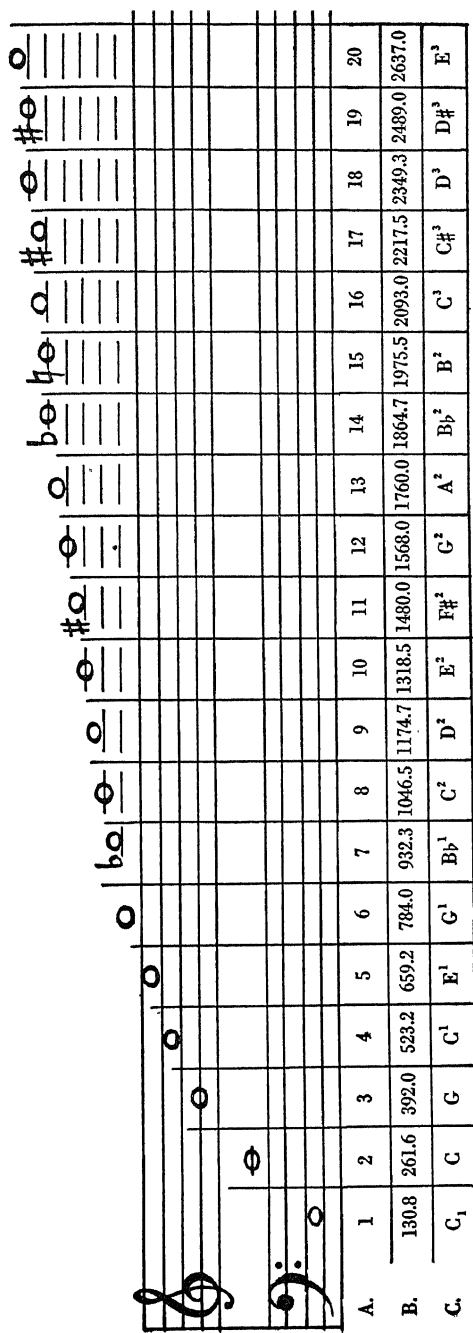

Fig. 7
If the performer were equal to the task he could go on and on, compelling the wave to divide into seven, eight and up to twenty or more separate waves. (See Fig. 7.) These notes would all be the harmonics of the fundamental, and the resulting scale would be the natural, or harmonic, scale. The notes in this harmonic scale are called *partials*, the lowest being the first partial, the octave being the second partial, the next one (G) being the third partial, and so on. These notes are also spoken of as the "open" notes, no slides, valves or keys being necessary to play them. It is easy to see (Fig. 7) that there are wide gaps in the lower parts of the scale, but that as the higher partials are reached the notes are close together until, when the thirteenth partial is reached, the notes are a half-step apart. In this upper range we have all the notes we need, but in the lower range there are some wide gaps that must be bridged over in some way.
The author is well aware that the trombone is not treated in music as a transposing instrument, but the method of treatment here has been chosen to eliminate confusion in comparing it with the harmonic scale of open notes used as illustration for all instruments (Fig. 7).